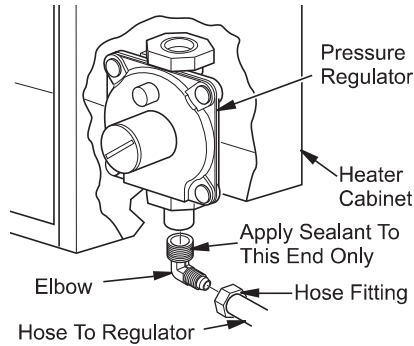

Figure 13 - Gas Connection
2. Apply pipe joint sealant lightly to male NPT threads (see Figure 13). This will prevent excess sealant from going into pipe. Excess sealant in pipe could result in clogged heater valves.